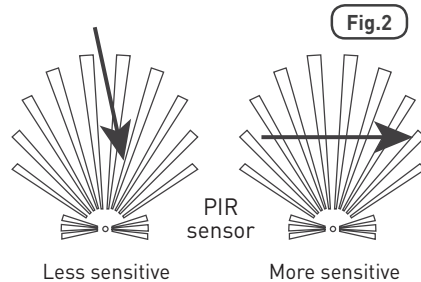

Fig.2
- Prior to mounting, keep in mind that the PIR sensor is more sensitive to a heat source moving across its coverage area and less sensitive to a heat source that moves directly towards the PIR sensor (Fig.2).